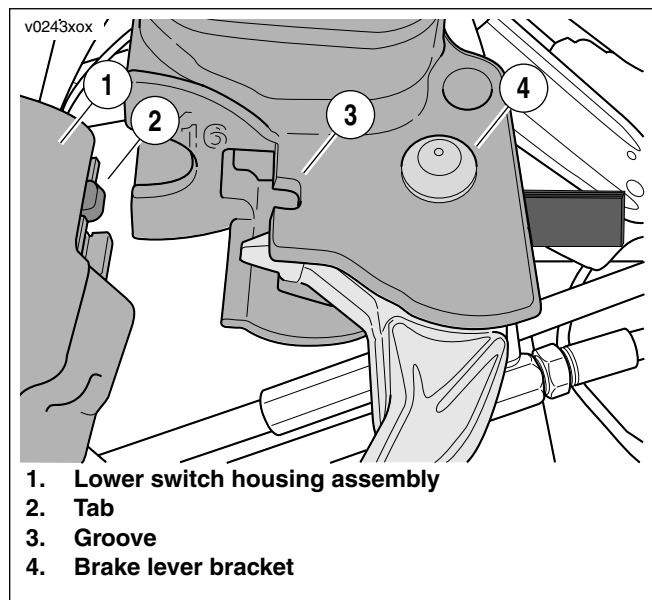

Figure 2-55. Master Cylinder and Brake Lever To Handlebar Switch Housing (typical)
1. See Figure 2-55. Position brake lever/master cylinder assembly inboard of switch housing assembly engaging tab (2) on lower switch housing (1) in groove (3) at top of brake lever bracket (4).